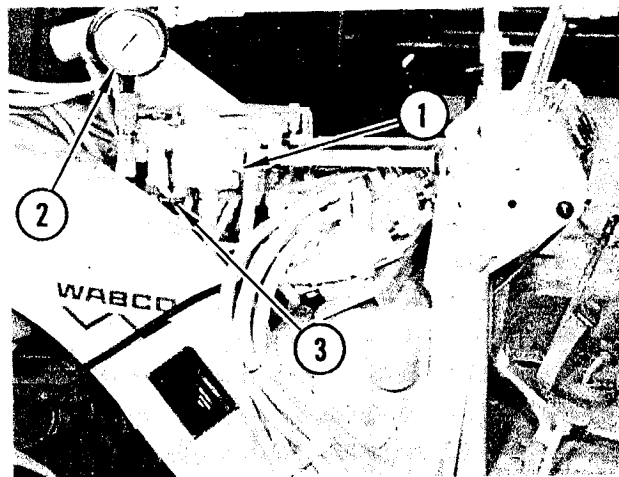

FIGURE 17. RELIEF VALVE
Refer to Figure 17. Remove pipe plug from end of inlet section. Install hydraulic fitting (1) and install a pressure gauge (2) up to 3000 psi.